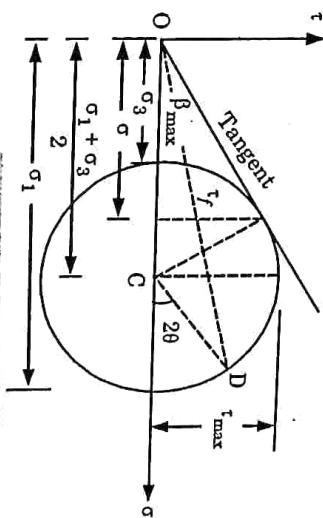

Fig. 4.13.1. Mohr's circle.
- The maximum shear stress τ_{max} is numerically equal to $(\sigma_1 - \sigma_3)/2$ and it occurs on a plane inclined at 45° to the principal planes as shown in Fig. 4.13.1.